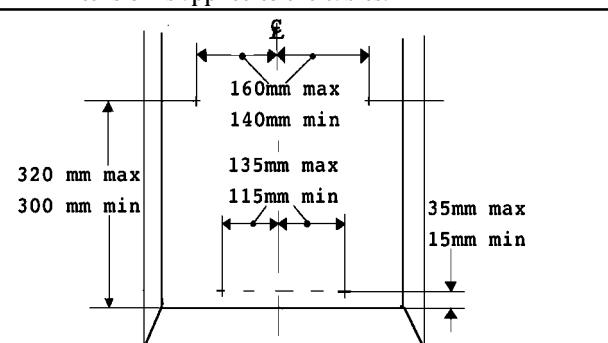

Fig. 10 Eyebolt positions
**7.2.1** Drill four holes in the rear wall of the fireplace for the eyebolt plugs. The holes should be drilled within the range of positions shown in figure 10 using a no.12 masonry drill. The holes should be equidistant each side of the centre line of the fireplace to ensure that the appliance finishes centrally in the opening when tension is applied to the cables.